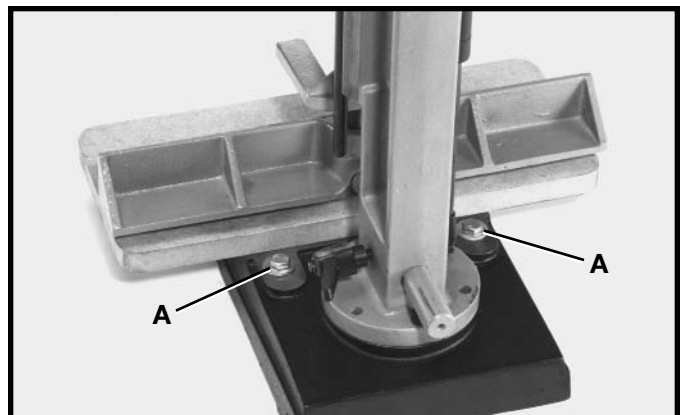

Fig. 16
This machine must be fastened to a supporting surface to prevent it from tipping during operation. Two holes are supplied in the base casting to accept screws (A) Fig. 16, for this purpose.